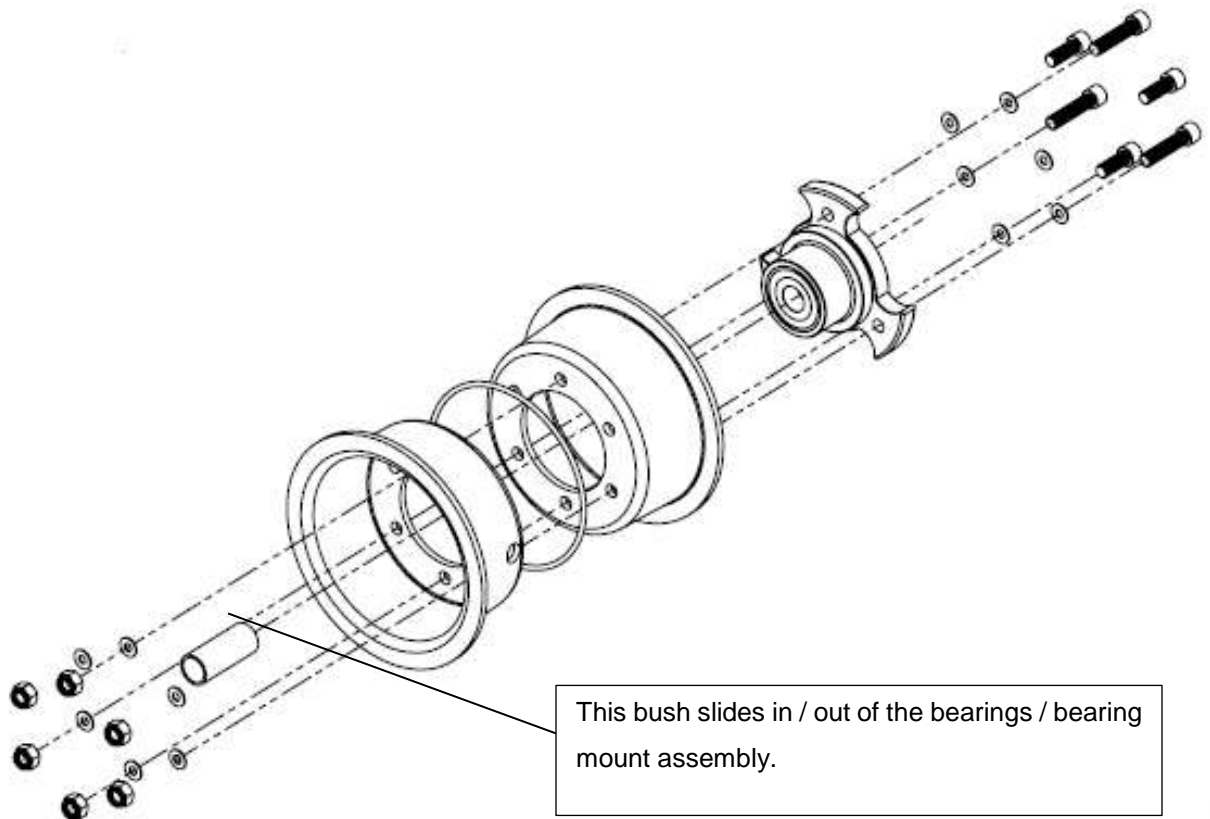

Figure 41: Front wheel hub assembly.
2. Push out the inner bush (refer to Figure 41).
3. Insert the bush (refer to Figure 41).